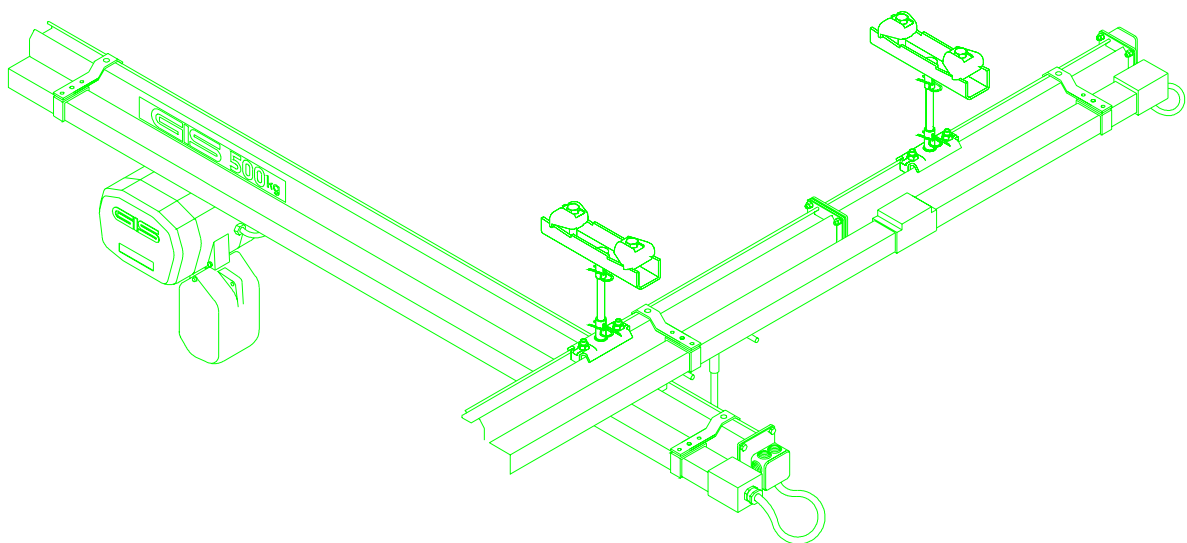

Figure 1-17
1.4.3 Conductor line (Figure 1-17)
Further assembly details may be found in the manufacturer's assembly instructions and in figure 1-17.